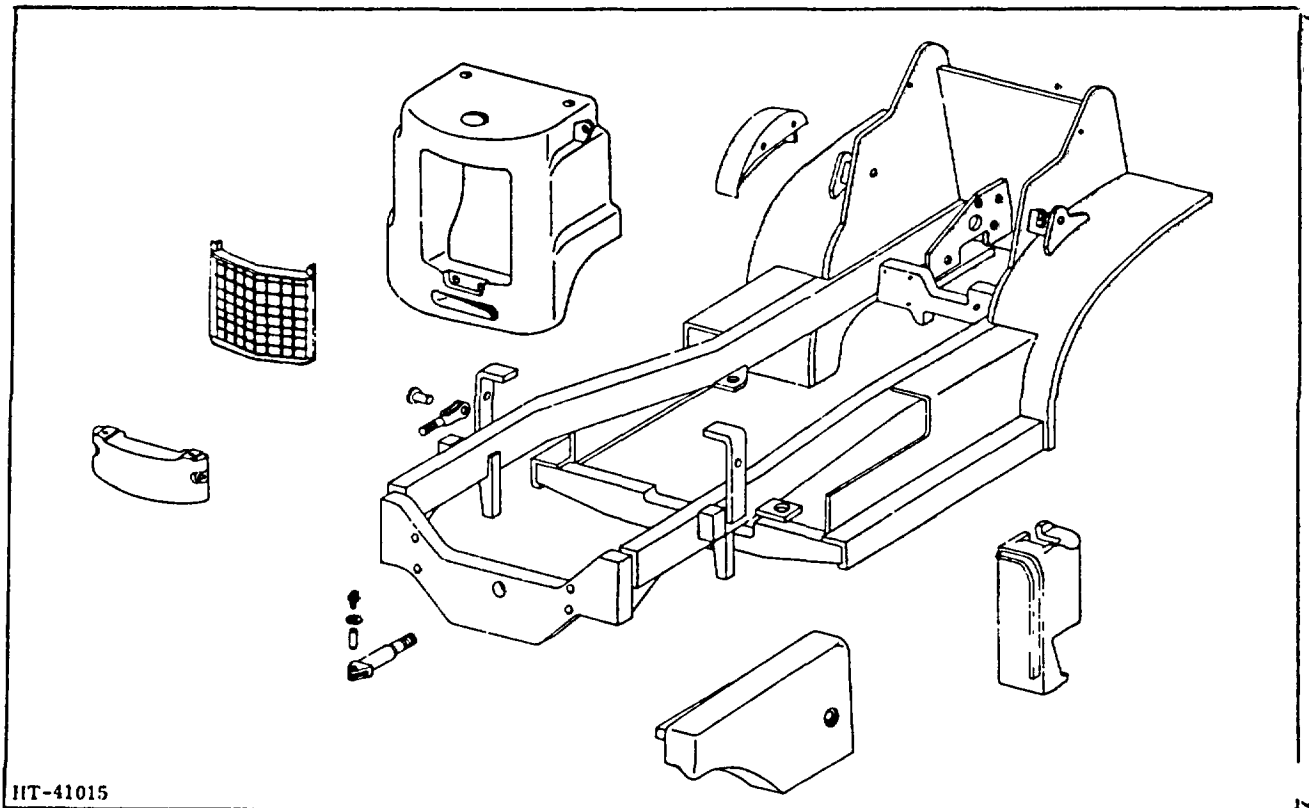

Figure 1. Counterweight and Frame (Typical) (Pneumatic Lift Truck)
Excepting the variable weight difference and subtle exterior design contours, there are two basic types of counterweight; one, the current prevalent style which incorporates three attaching bolts (Figure 1), and the
5. Using the hoisting chain to relieve the pressure, remove mounting bolts (bolt), nuts (nut), and washers. (Refer to Figures 1 and 2.)